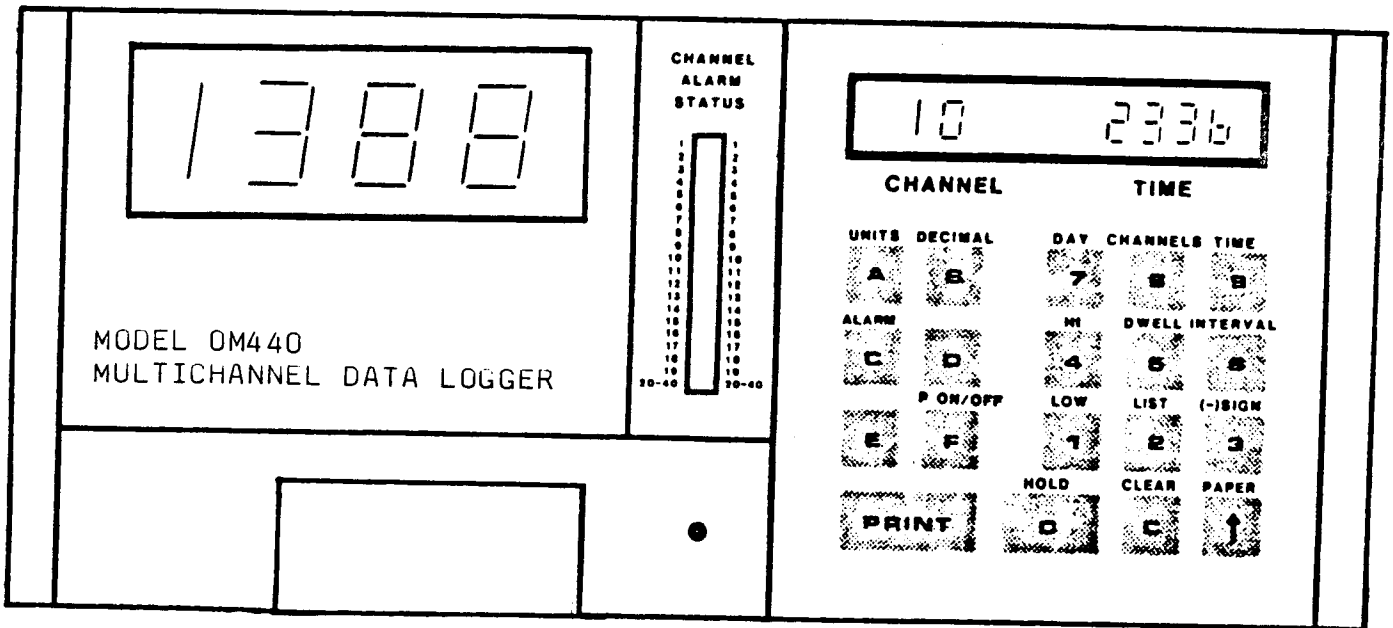

Figure 4-1. OM400 Series Front Panel
4.0 FRONT PANEL (See Figure 4-1).